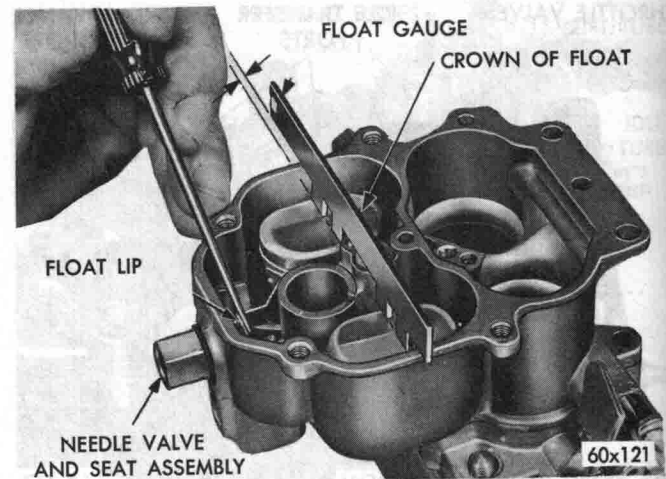

Fig. 14—Checking Float Setting
(16) Assemble the fuel inlet needle valve, seat and gasket, then insert in position in the main body. Tighten securely. (If the needle valve is ridged or badly worn, install a new needle valve and seat assembly.)
(17) Using Tool T109-230 or a "T" scale, check the float setting, as shown in Figure 14. There should be  $\frac{3}{32}$ " from the top of the crown of each float to